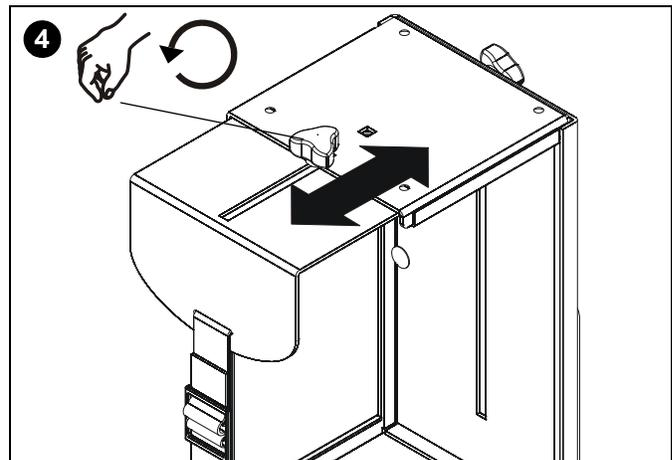

Figure 4
4. Loosen adjustment knobs on top and bottom of the mount and slide flanges in order to allow for the CPU to be inserted for mounting. (See Figure 4)
NOTE: Top and bottom knobs can be removed and inserted into the front square holes in order to allow for large CPU's to be installed. (See Figure 4)